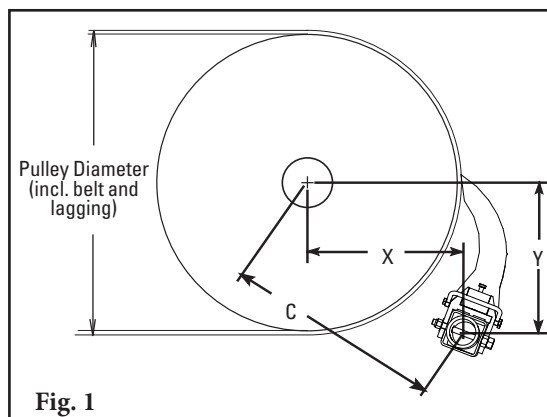

Fig. 1
- Wrenches or Crescent Wrenches: (2) 19mm (3/4"), (2) 38mm (1-1/2"), (1) 24mm (15/16"), and (1) 16mm (5/8")
1. **Find the X, Y & C specifications.** Measure the pulley diameter (including the belt and the lagging) (Fig. 1).